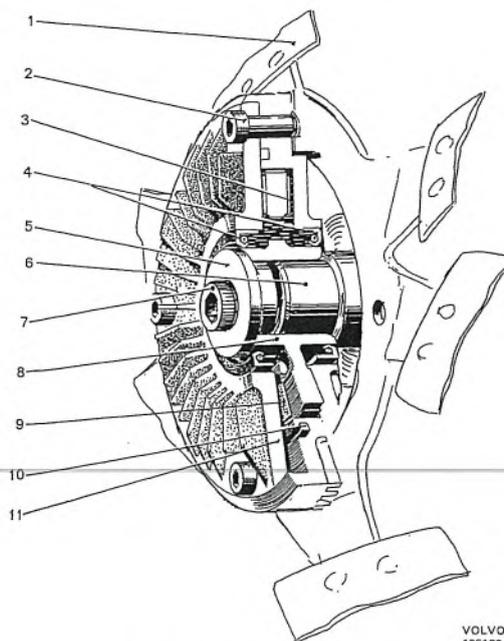
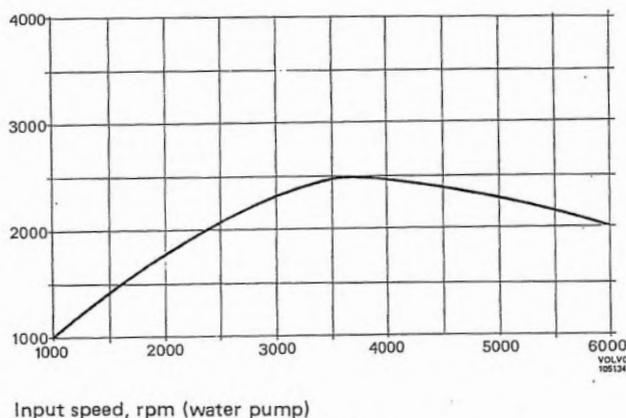

Fig. 2-107. Viscous fan
Fig. 2-115. Curve for fan coupling slip
The fan is a speed-regulated fan, a so-called viscous type (see Fig. 2-107).
The function is to ensure that the fan blades do not exceed a certain speed even if the engine speed is exceeded. See Fig. 2-115. The six fan blades are mounted asymmetrically to keep down the noise level. The fan coupling consists of the shroud (11, Fig. 2-107) in which the fan blades (1) are secured with the bolt (2). The shroud (11) has two halves which, however, cannot be separated for repairs, the fan coupling then being replaced complete. The hub (8) has a light fit on the water pump flange (6) and is locked by means of the center bolt (7). The hub is provided with a slip disc of friction material (9) surrounded by oil. During idling and at low speeds, the slipping is insignificant, so that the fan provides an air current for good cooling. When the ingoing speed (that of the water pump) exceeds the fan speed, the slipping increases (see Fig. 2-115). With this arrangement the fan speed should never exceed about 41.7 r/s (2500 r/m). The fan noise output would then be low compared with a fan which runs at
stroboscope with variable blinking frequency. Make a mark on the fan and one on the water pump pulley. Find out the speed relationship between fan and pulley by means of the stroboscope. The fan speed should follow the speed of the water pump according to the curve given in Fig. 2-115.